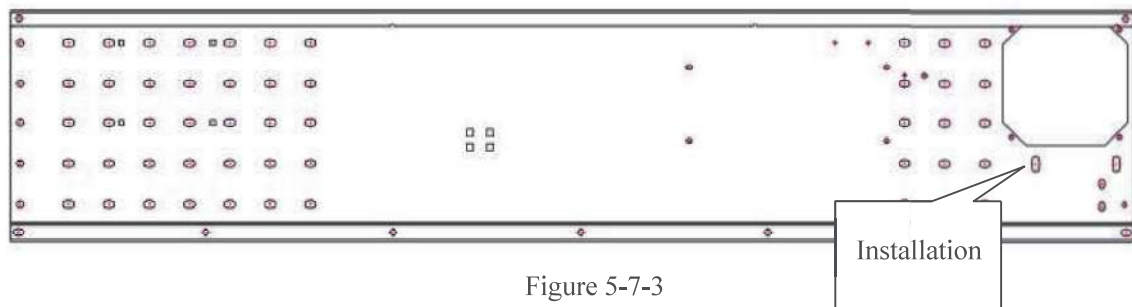
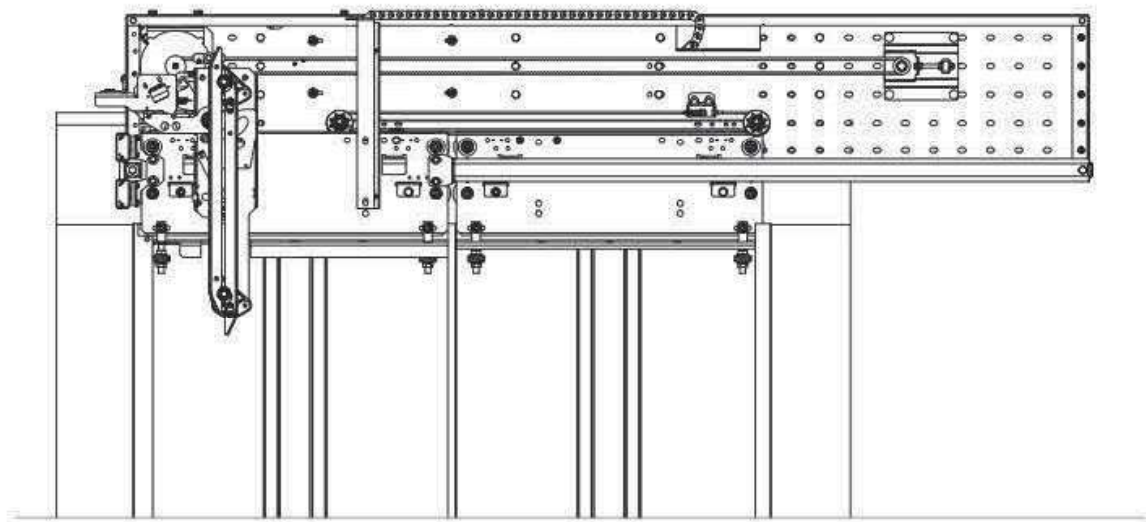

Figure 5-7-3
Figure 5-7-4
- 3) Install the fixed hook assembly and install the hole as shown in Figure 5-7-3, to pre-tighten the fixed hook assembly on the door header panel of the car operator, as shown Figure 5-7-4.